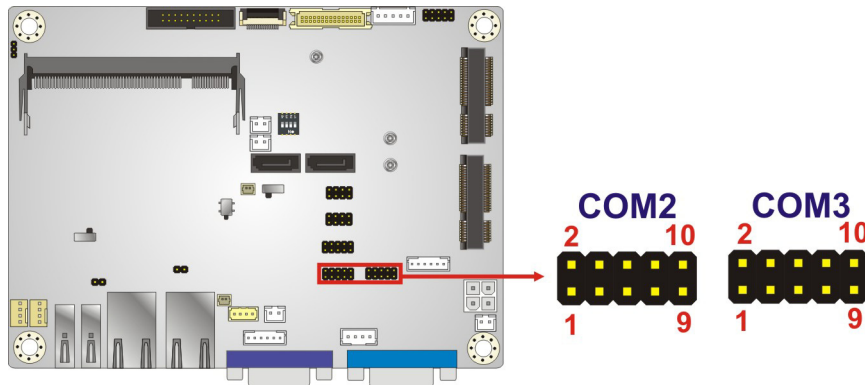

Figure 3-18: RS-232 Serial Port Connectors Locations
- CN Location: See **Figure 3-18**